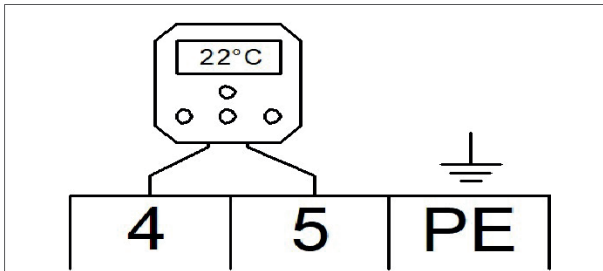

Figure 9 - Modulating thermostat connection
1. Connect the two control wires to terminals 4 and 5 (see figure 9 or the electrical wiring diagram in §9).